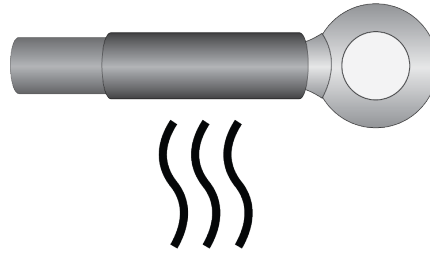

Figure 41. Heating the Heat-Shrink Tube
6. Heat the heat-shrink tube to secure it on the wire and ring terminal lug. Refer to Figure 41.